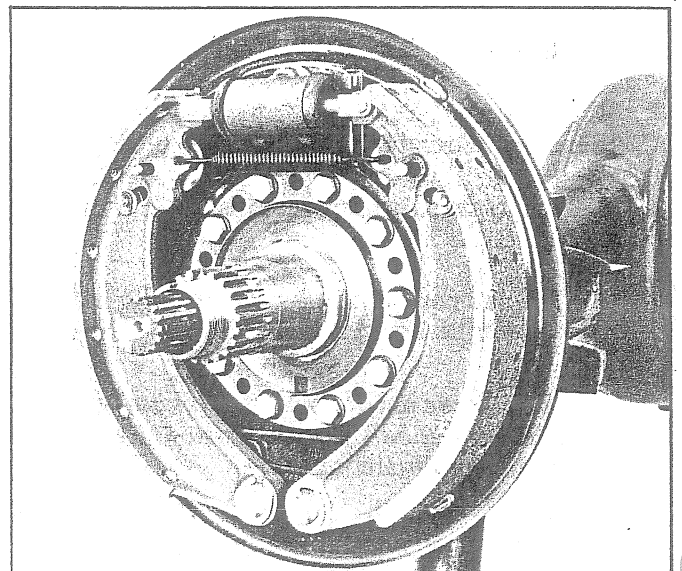

Fig. 83 - Brake Backing Plate Attached to Axle
10. Remove bolts and washers securing brake backing plate, oil catcher ring and spindle to the spindle support. See Fig. 83.